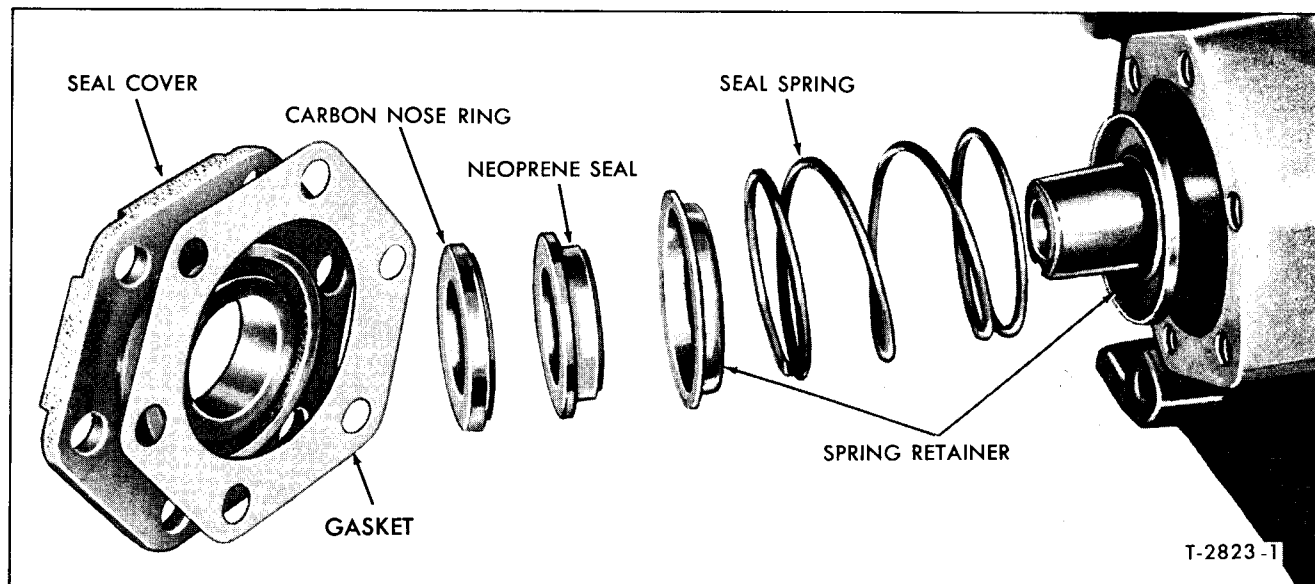

Figure 40—Replacing Shaft Seal Components
Key numbers in text refer to figure 29. Also refer to figure 40.
1. Loosen and remove all but two opposite cap screws (33) which attach seal cover to housing. Slowly and alternately back out the remaining two cap screws. Seal cover should be forced away from housing by tension of shaft seal spring (fig. 40). However, if cover does not follow the two cap screws, tap rim of cover lightly with
2. When the seal cover has been removed, the seal components (carbon nose ring, neoprene ring, steel retainers, and spring) can usually be pulled from crankshaft (fig. 40). In some cases, the neoprene ring will adhere to shaft. It can be loosened by using a seal puller or by hooking short ends of two Allen-type wrenches behind ring and pulling ring from shaft.
NOTE: Refer to figure 40 when installing seal components.